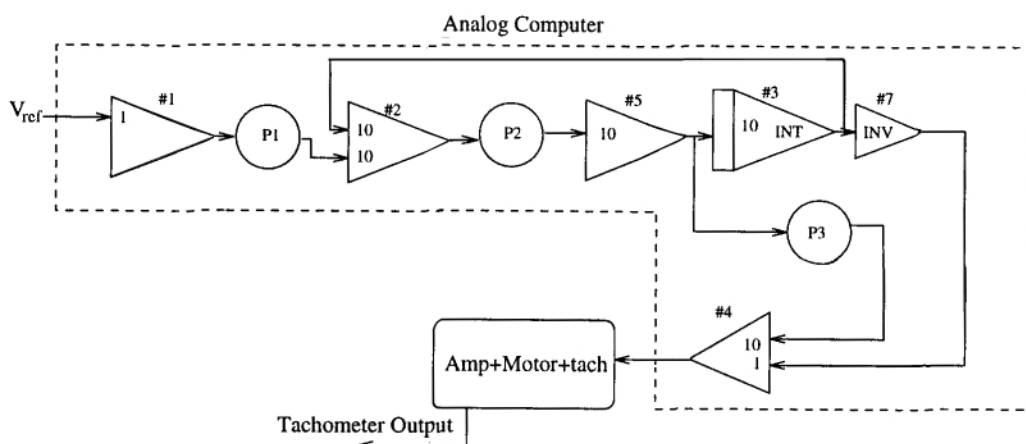

Figure 6.3. Wiring diagram for frequency response.
- The wiring diagram is shown in figure 6.3.